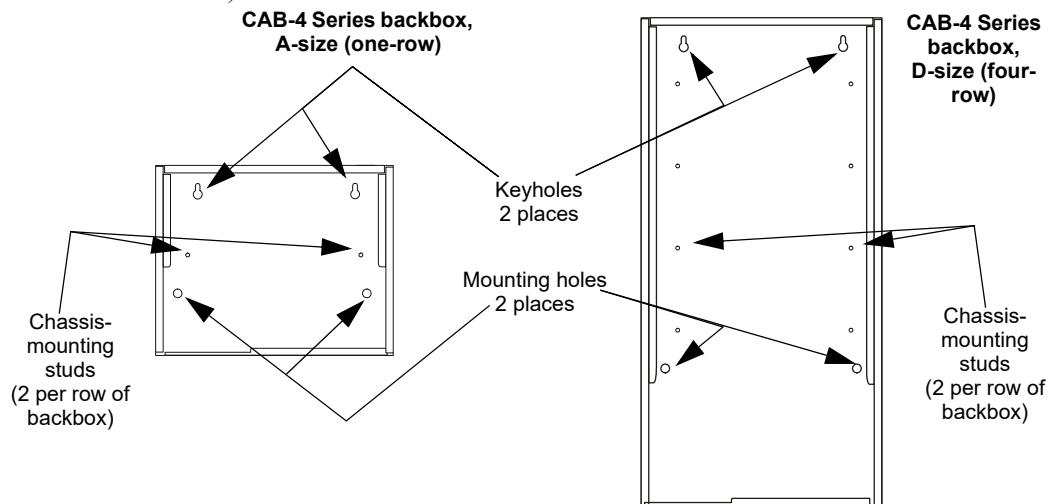

Figure 2.2 CAB-4 Backbox-Mounting Holes and chassis-Mounting Studs
- Use the four holes in the back surface of the backbox to provide secure mounting (See Figure 2.2, “CAB-4 Backbox-Mounting Holes and chassis-Mounting Studs” on page 13).